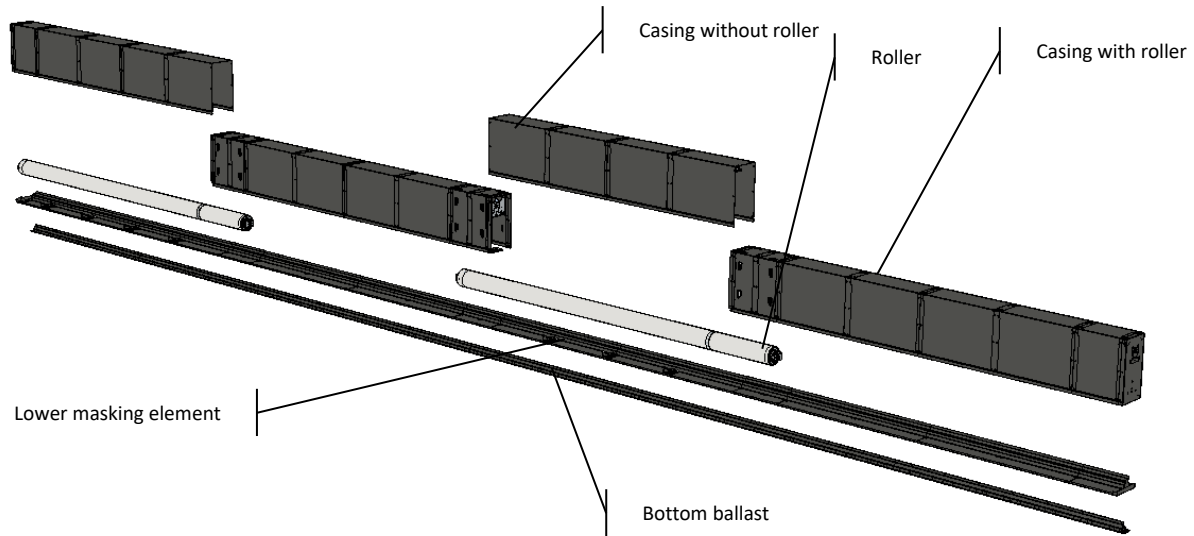

Fig. 5 Curtain components in the delivery.
The curtains are delivered in modules. Some modules consist of casings with a roller with fabric, casing without roller, separate roller with fabric, lower masking elements, and bottom ballast (Fig. 5). The unloading should be carried out when supervised by a person authorised by the manufacturer, using widely available reloading means (e.g. forklift trucks, cranes equipped with slings with crossbars) or manually while special care is exercised to protect the curtains from damage.
1. **The PROSMOKE ONE C FS curtain is delivered to the construction site in modules (Fig. 5). Assemble the modules and curtain components according to the detailed curtain installation instructions.**